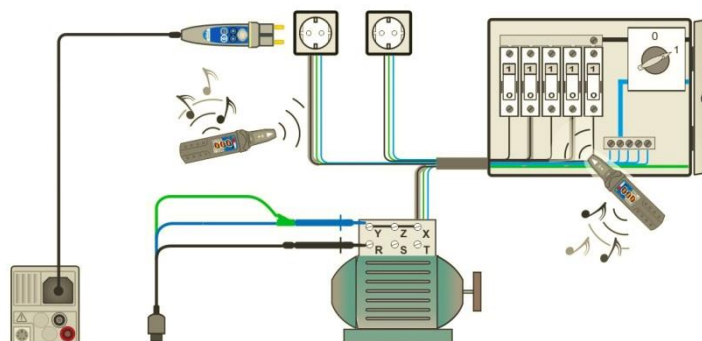

Figure 7.122: Tracing wires under walls and in cabinets
- › Connect test leads to the tested object (see **Figure 7.122** and **Figure 7.123**).